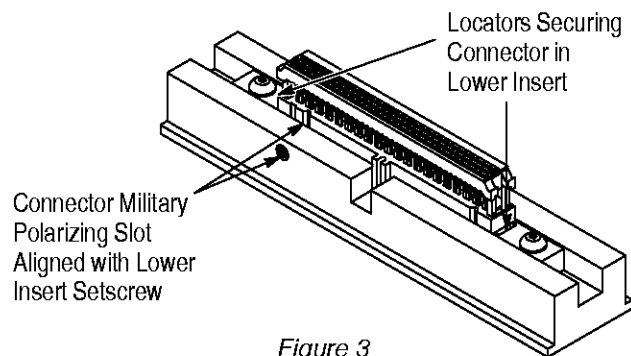

Figure 3
2. Place the connector into the insert and between the locators. Make sure that the military polarizing slot (*second* slot from the end of the connector) aligns with the setscrew on the side of the lower insert (this is essential in order for the connector to sit level in the insert). See Figure 3. Slide the locators until they butt against the connector, then secure the locators by fully tightening the screws. The connector must fit securely between the locators.